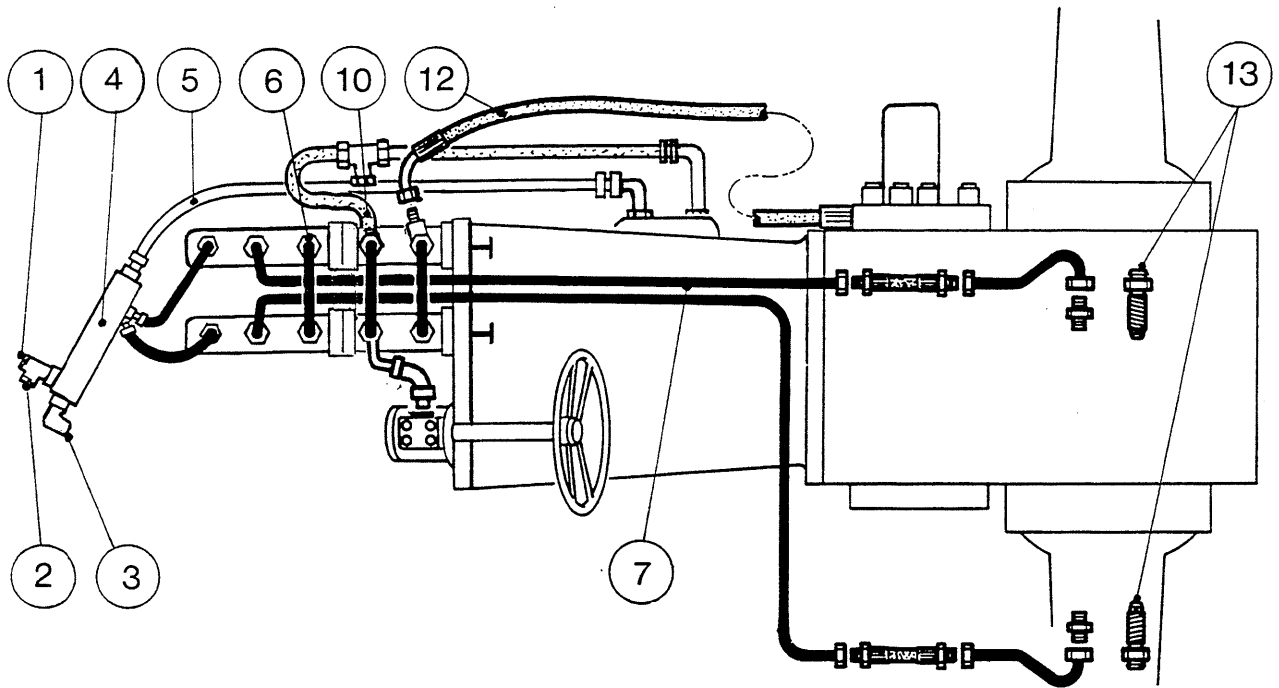

Fig. 1
### A. Removing and refitting the cover (Fig. 1)
5. Replace the O-ring (5) of the transfer pipe (6).
8. Position the suction pipe and the gasket (21).
9. Reset the cover, positioning the transfer and suction pipes in their respective ports. Tighten the bolts (9).
10. Clean the thread on the suction pipe. Apply Loctite 241 on the nut (4) and tighten it to a torque of 40 to 50 Nm, with the tab 'L' pressed against the centre housing 'C' (Fig. 1).
#### Preliminary operations (Fig. 1)
#### Final operations (Fig. 1)
- with braking servo-assistance, without trailer brake (Fig. 1),